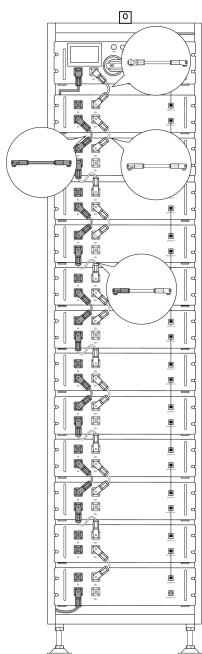
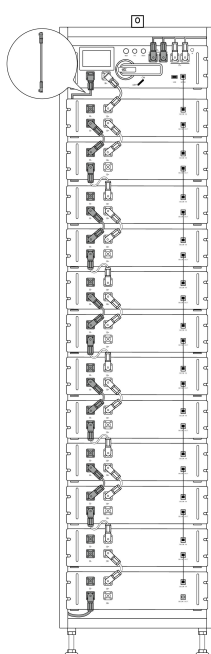

Figure 2-1
Figure 2-2
2. Bcables: See the figure 2-1 and figure 2-2.